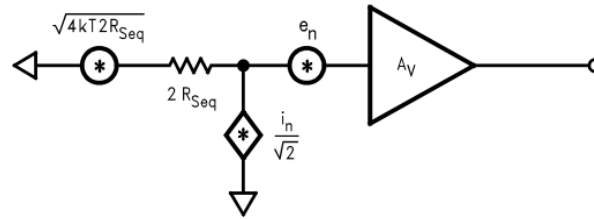
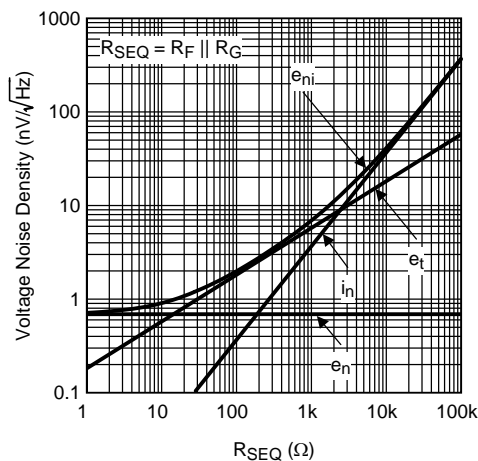

Figure 59. Noise Model with $R_f || R_g = R_{seq}$
Figure 60. Voltage Noise Density vs. Source Resistance
Figure 59 illustrates the equivalent noise model using this assumption. Figure 60 is a plot of e_{ni} against equivalent source resistance (R_{seq}) with all of the contributing voltage noise source of Equation 4. This plot gives the expected e_{ni} for a given (R_{seq}) which assumes $R_f || R_g = R_{seq}$ for bias current cancellation. The total equivalent output voltage noise (e_{no}) is $e_{ni} * A_V$.
As seen in Figure 60, e_{ni} is dominated by the intrinsic voltage noise (e_n) of the amplifier for equivalent source resistances below 15Ω . Between 15Ω and $2.5\text{ k}\Omega$, e_{ni} is dominated by the thermal noise ($e_t = \sqrt{4kT(2R_{seq})}$) of the equivalent source resistance R_{seq} ; incidentally, this is the range of R_{seq} values where the LMH6629 has the best (lowest) Noise Figure (NF) for the case where $R_{seq} = R_f || R_g$.
Above $2.5\text{ k}\Omega$, e_{ni} is dominated by the amplifier's current noise ($i_n = \sqrt{2} i_{nR_{seq}}$). When $R_{seq} = 190\Omega$ (i.e., $R_{seq} = e_n / \sqrt{2} i_n$), the contribution from voltage noise and current noise of LMH6629 is equal. For example, configured with a gain of $+10V/V$ giving a -3 dB of 825 MHz and driven from $R_{seq} = R_f || R_g = 20\Omega$ ($e_{ni} = 1.07\text{ nV}/\sqrt{\text{Hz}}$ from Figure 60), the LMH6629 produces a total equivalent output noise voltage ($e_{ni} * 10\text{ V/V} * \sqrt{(1.57 * 825\text{ MHz})}$) of $385\text{ }\mu\text{V}_{\text{rms}}$.